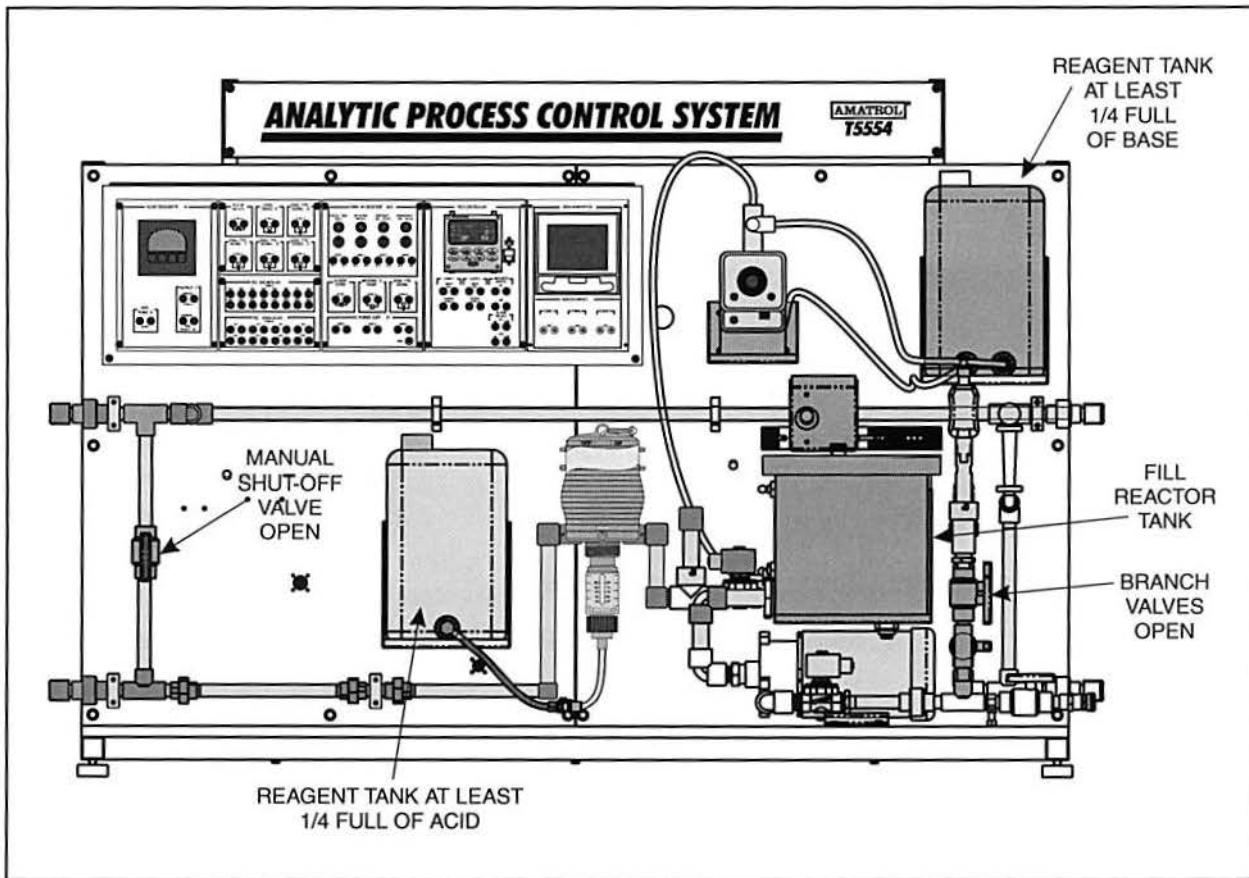

Figure 33. T5554 Setup
- 1. Perform the following substeps to make sure the T5554 Analytical Process Control System is set up as shown in figure 33.